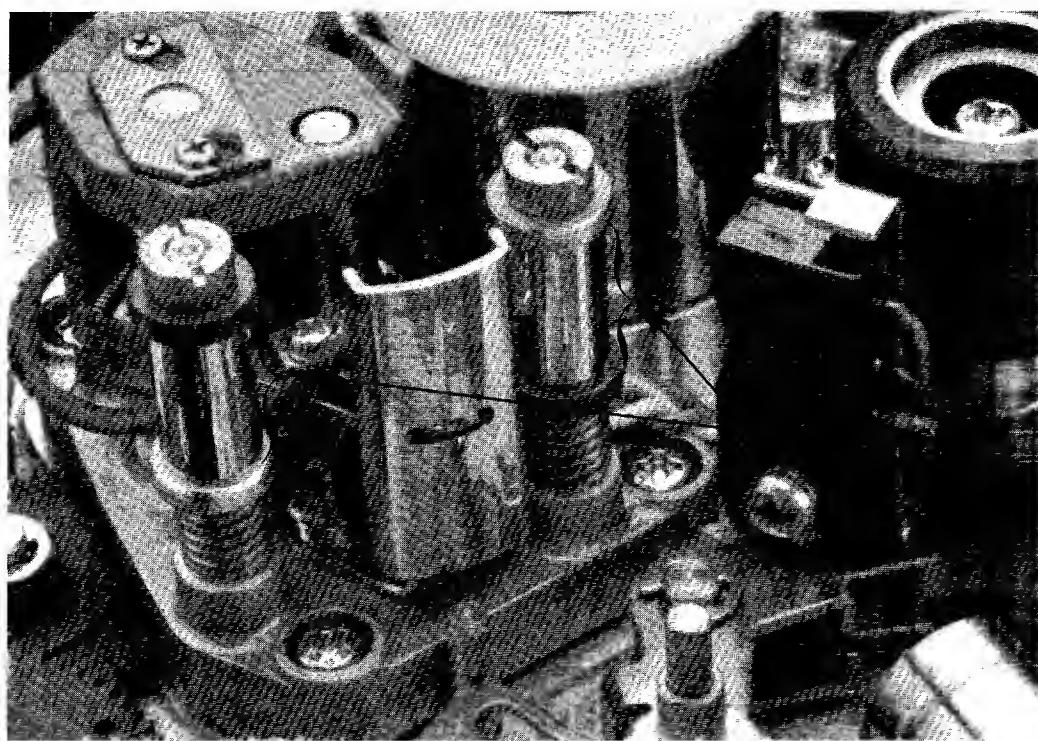

Figure 5-2. Tracking Area Guides
Several parts of the tape drive mechanism guide the tape as it moves through the capstan and read/write head areas. These parts should be cleaned during preventive maintenance or any time tape jamming occurs. Cleaning should be performed with cotton swabs and a commercial head cleaning solution. Refer to figure 5-2 and 5-3 for locations to be cleaned. CLEAN ONLY THE POINTS SHOWN.
2. Clean both under roller guides as shown in figure 5-2. While cleaning the rollers, turn them through their entire rotation to insure that the entire surface of each roller is cleaned. Wipe dry with a clean cotton swab.